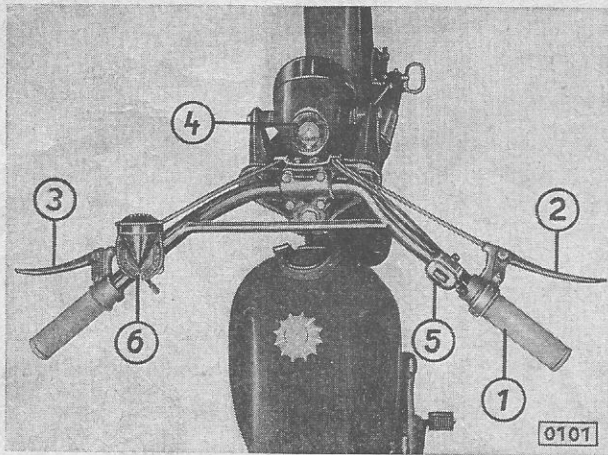

Fig. 1: Handlebar and controls:
1. Throttle twist grip (Fig. 1/1)
2. Hand brake lever (Fig. 1/2)
3. Clutch control lever (Fig. 1/3)
5. Switches (Fig. 1/5 and Fig. 3)
7. Klaxon (Fig. 1/6)
8. Speedometer (Fig. 1/4)